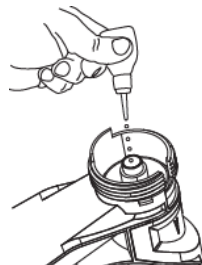

Fig. 20
20. Place a drop of household oil into the inside of the sprayer (Fig 20).